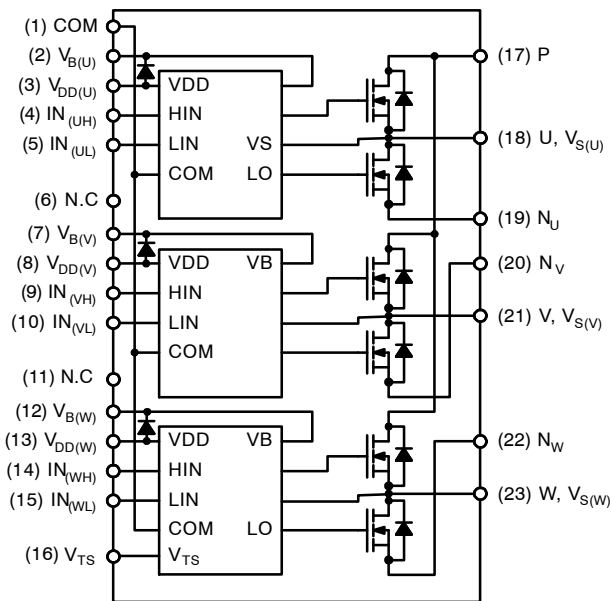

Figure 1. Pin Configuration and Internal Block Diagram (Bottom View)
- 13. About pin position, refer to Figure 1.